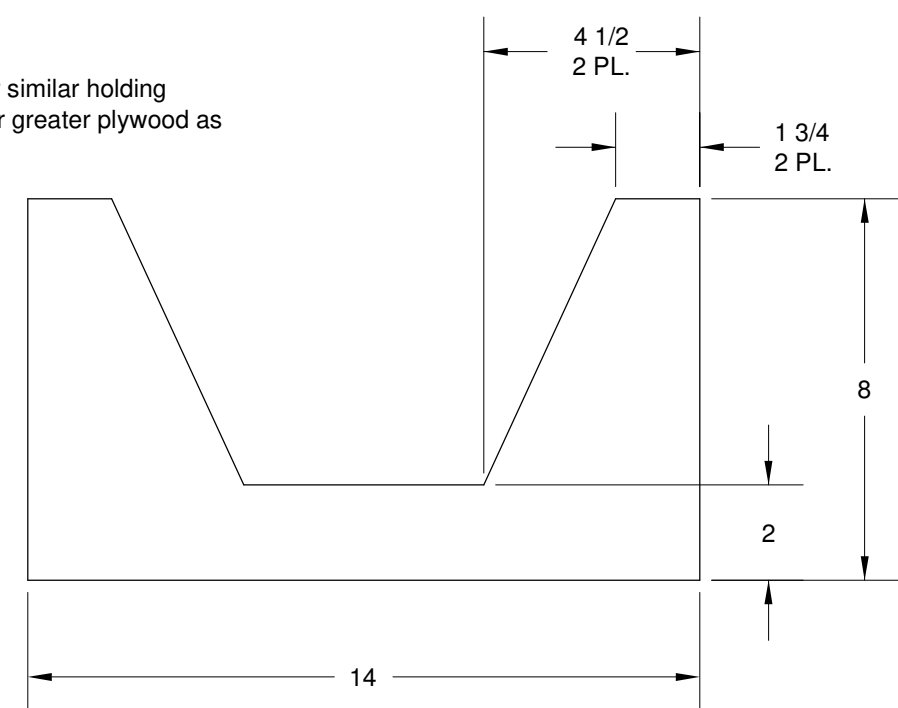

FIGURE 1: FABRICATE 'V' BLOCK
Step 1: Make a 'V' block or similar holding fixture from 1/4 inch thick or greater plywood as shown in Figure 1.